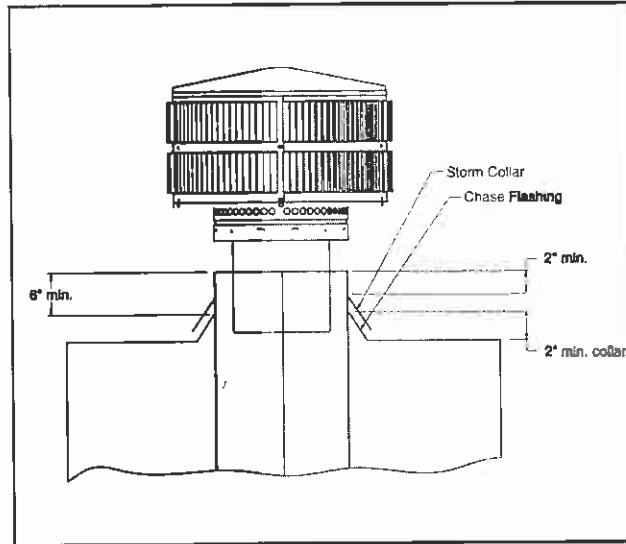

Figure 23 - Installing a TR11 Round Termination Cap
- a. Install the chimney sections up through the chase enclosure. When using a TR11 round termination cap, the uppermost top section of pipe must extend 6" above the top of the chase collar to allow installation of the storm collar and termination cap. See Figure 23.